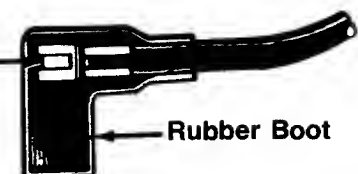

FIGURE 15.
1. Attach spark plug wire to spark plug. If unit is equipped with a rubber boot over the end of the spark plug wire, make certain the metal loop on the end of the spark plug wire (inside the rubber boot) is fastened securely over the metal tip on the spark plug. See figure 15.